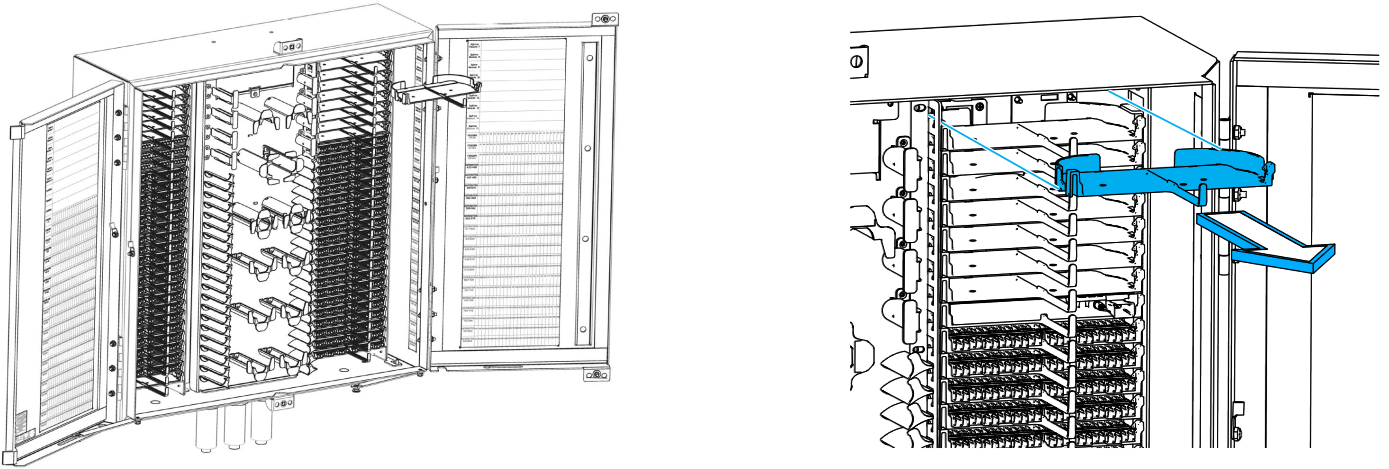

Figure 16. Plastic Tray Removal
- 12.5.1 Remove the plastic tray from the slot designated for parking (See Figure 16).